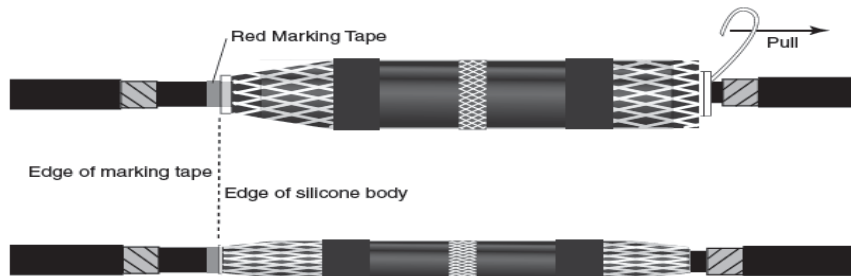

Figure 21
- Pull the cord counterclockwise while holding the splice body in place. Do not pull the spiral holdout all at once. Slowly pull the spiral holdout on top of the cable then around and underneath until the cord has been completely removed. Refer to Figure 21.